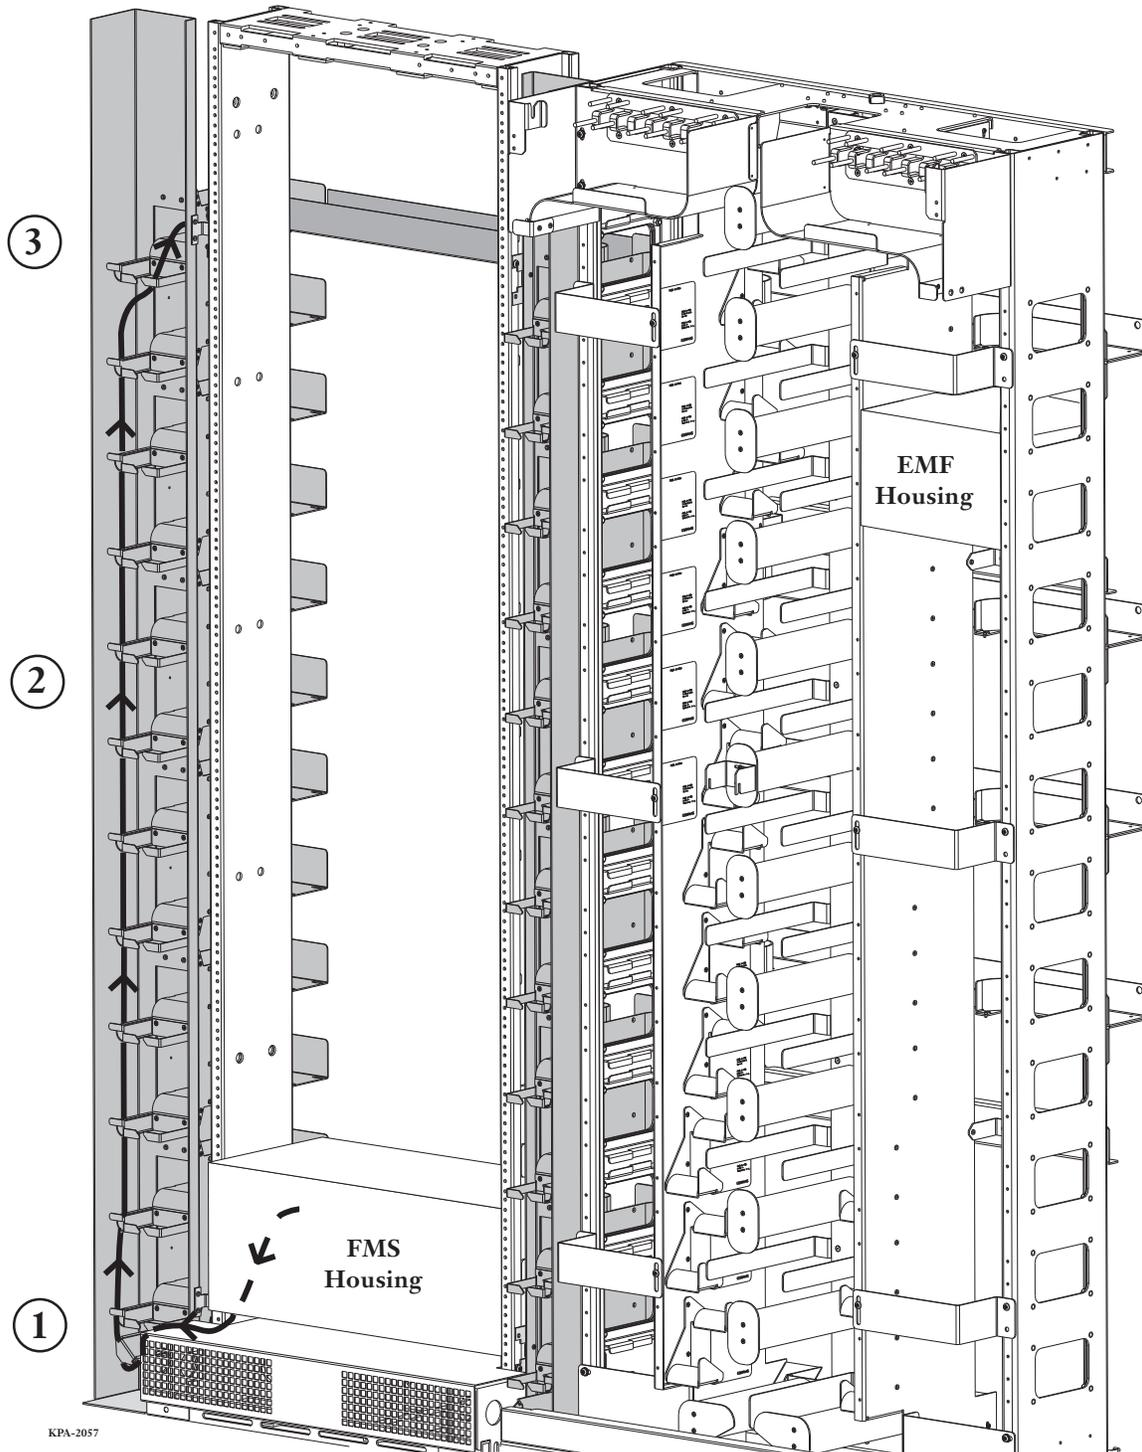

Figure 3 — Fiber Routing
- Step 1:** Bring jumper from FMS housing down around the bottom radius guide on the IBU (Figure 3).